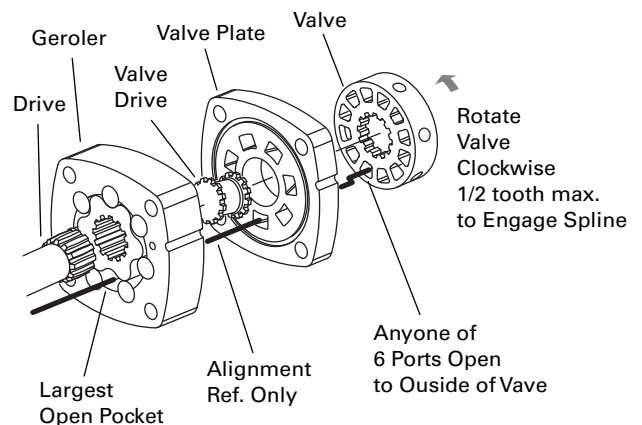

Figure 12. Timing alignment
34. Align the notch on the outside of the valve plate with the notch on the Geroler as shown in Figure 12.